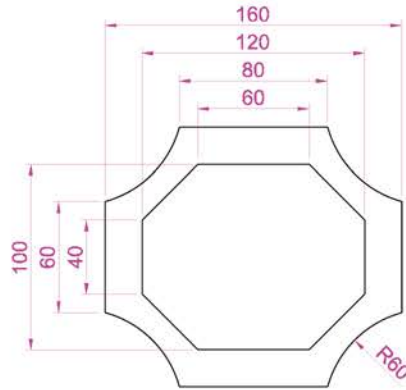

Fig. 4.31 Exercise 9
9. Construct the drawing Fig. 4.31 using the **Line** and **Arc** tools. Then, with the aid of the **Multiple** prompt of the **Edit Polyline** tool, change the outlines into plines of **Width = 1**.